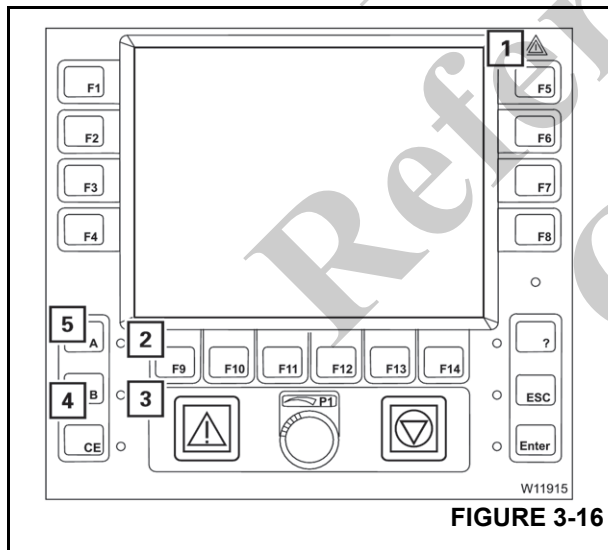

FIGURE 3-16
- the Warning/Error indicator (1) (Figure 3-16)
- the **A** button lamp (2).